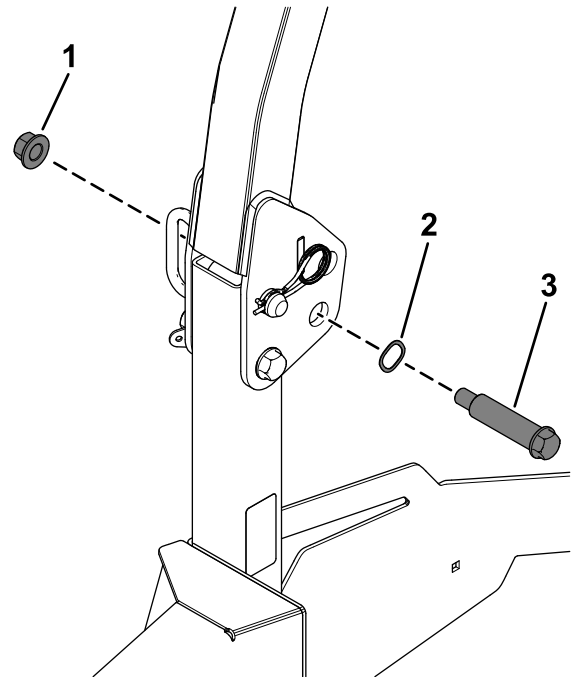

Figure 4
1. Secure the shoulder bolt to the roll bar using a wave washer and locknut (1/2 inch) as shown in Figure 4.